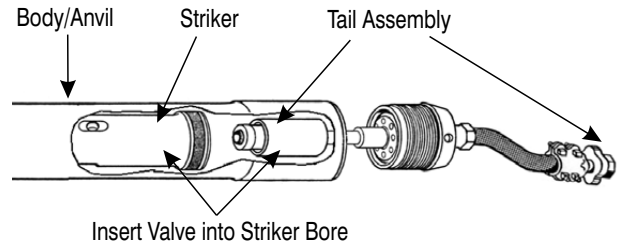
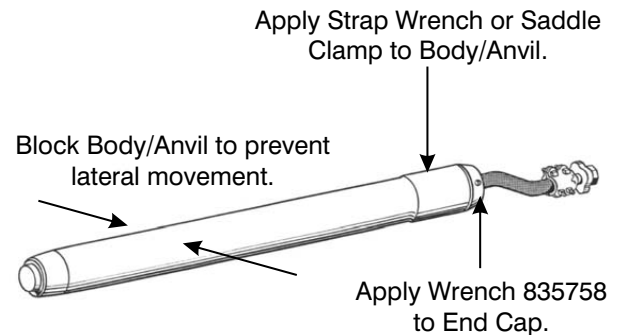

Figure 9-36. Insert Valve into Striker.
Figure 9-37. Secure End Cap to Body/Anvil
7. With the exception of the End Cap (10) and the Whip Hose (14), coat the Tail Assembly components with hydraulic fluid.
8. Insert the Valve (7) into the Striker (2) and thread the End Cap (10) into the Body/Anvil (1), as shown in Figure 9-36.
9. Hand tighten the End Cap (10) to the Body/Anvil (1).
10. Place the Hole-Hog on a level surface. Holding the Body/Anvil (1) with a strap wrench, use wrench P/N 835758 to tighten the End Cap (10), as shown in Figure 9-37.